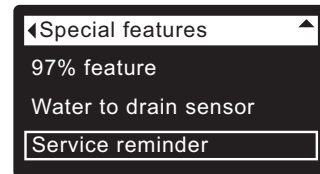

FIG. 148
1. From any of the rolling status screens, press the SELECT (O) button to display the **Main menu**.
3. Press the SELECT (O) button to display the Advanced settings menu.
5. Press the SELECT (O) button to display the Special features menu (See Figure 148).
9. Press the SELECT (O) button. The display will go back to the Special features menu (Figure 148).